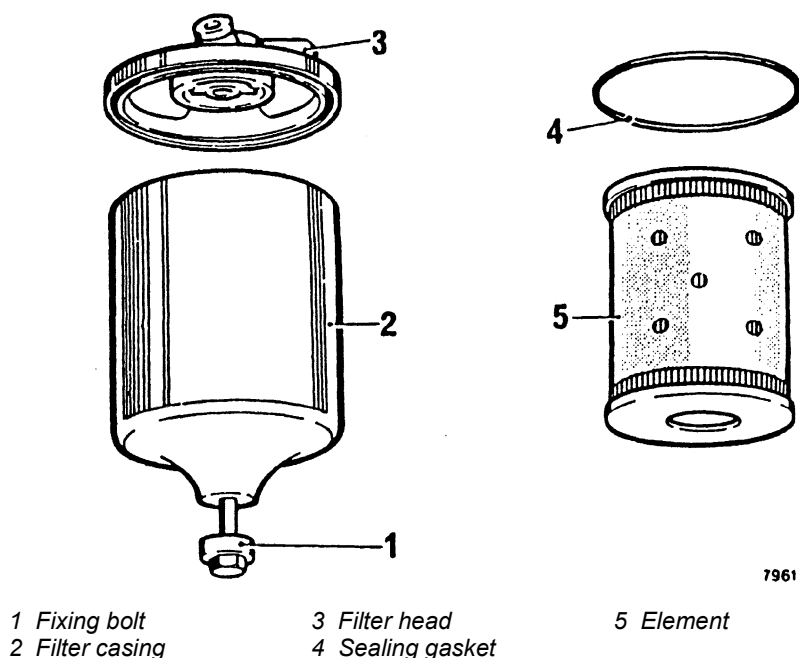

Fig 2 Oil filter - exploded view
3. Unscrew filter casing centre bolt (Fig 2(1)) and withdraw the casing (2) and element assembly (5) from the filter housing (3), taking care when removing the filter casing as some oil will run out as soon as the casing